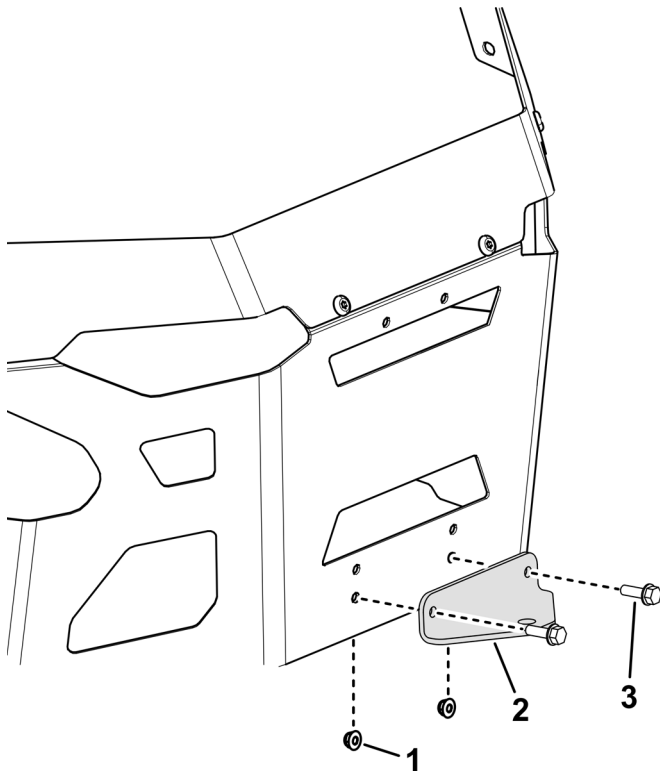

Figure 6
2. Remove the existing 2 bolts, 2 nuts, and hitch bracket from the bottom of the guard (Figure 6).